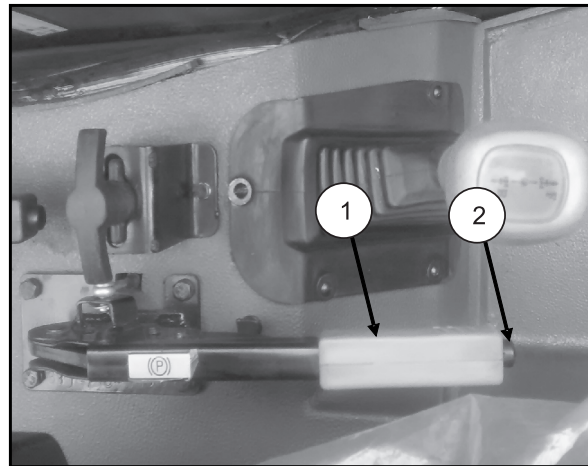

Fig. 4-16
- Pull up the lever (1 Fig. 4-16) completely to operate the parking Brake.
- Pull the lever lightly (1), Press down the button (2), let the lever down and release the button (Fig. 4.16)